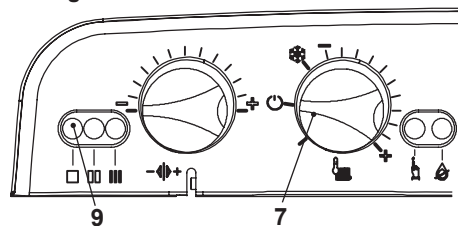

Fig. 3.3
**If the left appliance operation light 9 (Fig. 3.3) flashes very quickly the boiler is detecting a fault.**